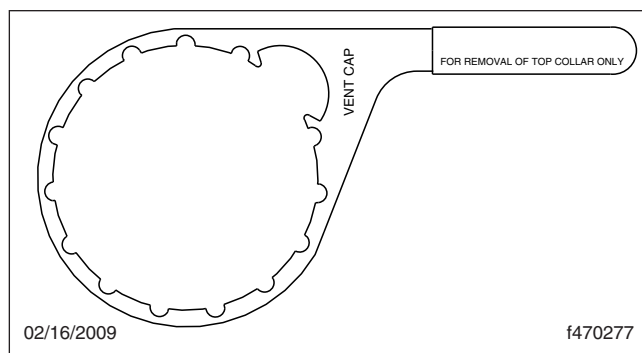

Fig. 3, DAVCO Collar Wrench
5. Using a DAVCO Collar Wrench (Fig. 3), remove the clear cover and collar.
5. Using a DAVCO Collar Wrench, shown in Fig. 3, remove the clear cover and collar.